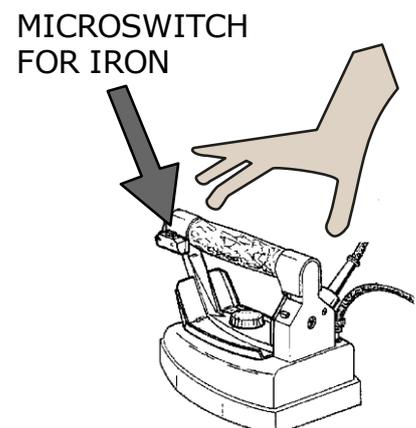

Fig. 3
4. Wait for the boiler lamp to switch off. At this point seize the iron by cork handle and press the micro-switch of the iron (fig. 3) 4 or 5 times, so that steam comes out. It is important to make sure that the steam is saturated (by pressing the micro-switch with the iron pointed towards the floor). Now everything is ready for ironing. During ironing operation, the boiler lamp switches on and off signalling that the machine is working properly.
1. Run the iron on garments, pressing the micro-switch of the iron at intervals (fig. 3), so that steam comes out.
3. steam tube and iron cable once they seem damaged (fig. 3);